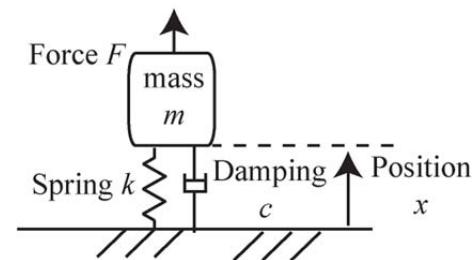

Fig2. Mass-spring system.
2. Fig. 2 shows a damped mass-spring system.